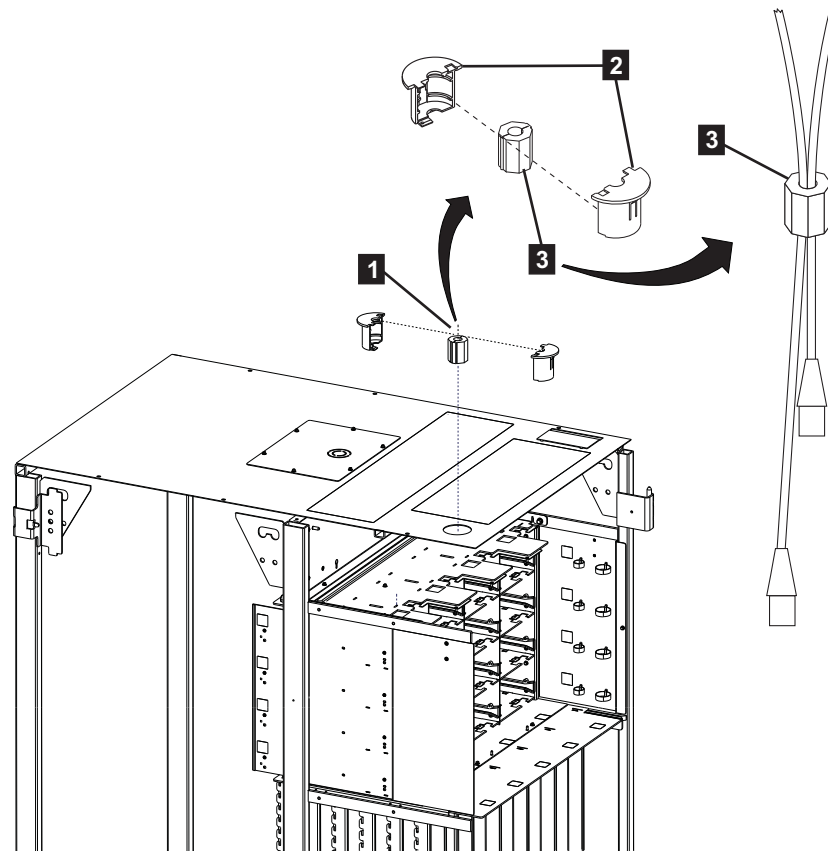

Figure 27. Top of frame power using the ferrite/cable restraint assembly
- ___ 15. Remove the ferrite/cable restraint assembly (**1** in Figure 27) from the top cover by rotating it and pulling up; set it aside.
- ___ 19. Referring to Figure 27 on page 43, open the plastic cable restraint housing **2** and remove the ferrite **3**.